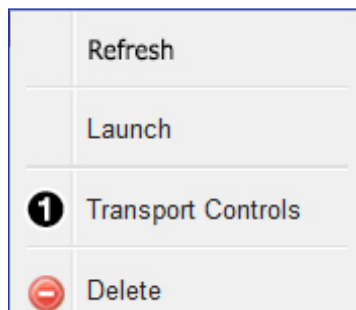

Figure 118. Right-click Access to Transport Controls
The transport bar can also be launched by <**right-clicking**> the preset in the **Preset List**, then choosing **Transport Controls** (see figure 118, ❶).